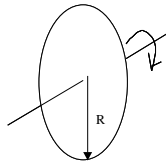

Figure 8
- (b) Find the moment of inertia of a uniform a disk about the axis through its centre and perpendicular to the plane of the disk shown in Figure 8 below. (8 marks)